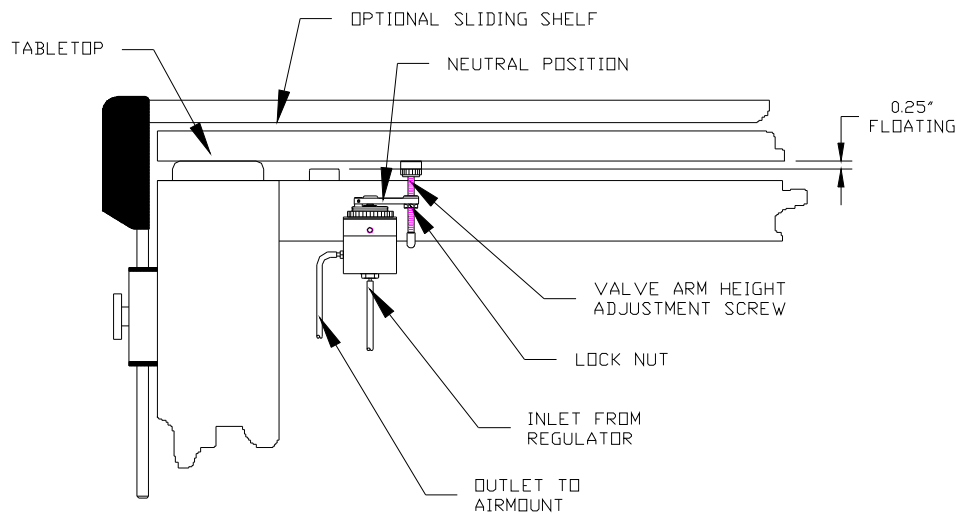

Fig. 5 The VIBRA-LEVEL Valve Adjustment.
8. When the Tabletop is completely “floating”, adjust each Valve Adjustment Screw so that the Tabletop is floating approximately $\frac{1}{4}$ of an inch (as shown Fig. 5). The tabletop should be level at this point since leveling was done prior to this by raising and lowering of the Mechanical leveling Feet.